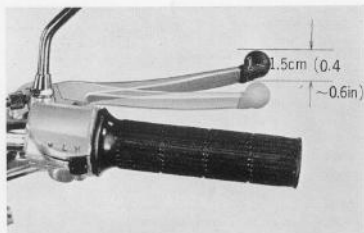

Fig. 5.28 Free play of brake lever
1. Front brake adjustment**1. Lever free play (Fig. 5.28)**